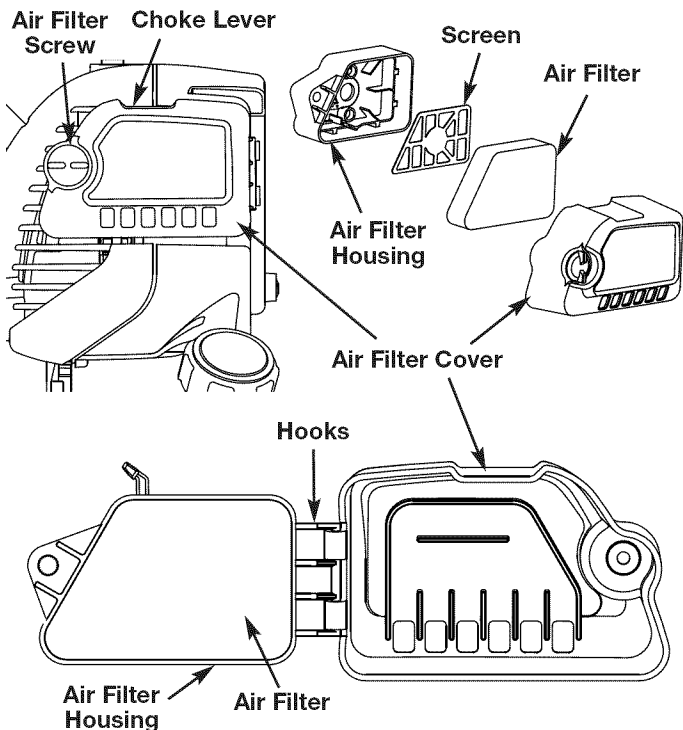

Fig. 19
1. Open the air filter cover. Push the tab on the left side of the cover in, swing the air filter cover out and off the air filter housing (Fig. 19).
2. Remove the air filter and the screen that sits behind it (Fig. 19).
6. Replace the filter (Fig. 19).
7. Reinstall the air filter cover. Position the hooks on the right side of the air filter cover into the slots at the right side of the air filter housing (Fig. 19).
8. Swing the cover to the left until the air filter screw contacts the air filter housing (Fig. 19).